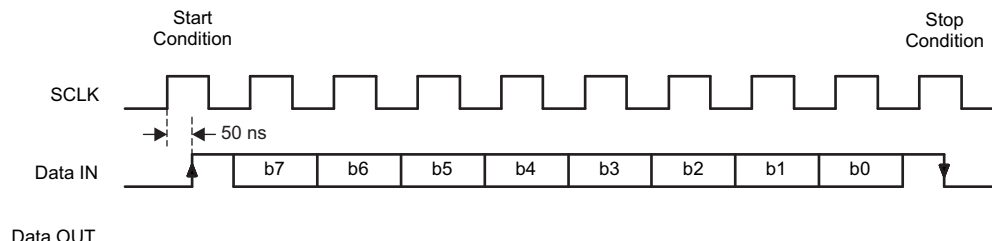

Figure 6-9. Serial – SPI Communication (No SS* Pin)
- (a) When using slave select (SS), set the SS bit low.
- (b) When not using SS, the start condition occurs when SCLK is high (see Figure 6-9).
- (a) When using slave select (SS), set the SS bit high.
- (b) When not using SS, the stop condition occurs when SCLK is high (see Figure 6-9).